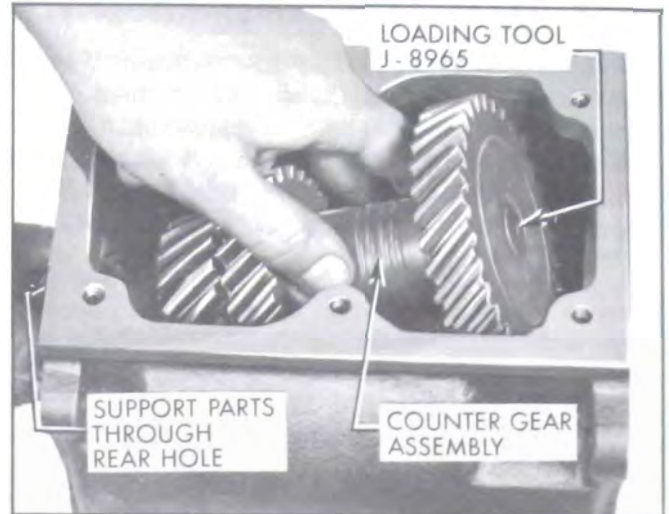

Figure 4-28—Installing Counter Gear
3. With Bearing Loading Tool J-8965 in place, and with all counter gear assembly parts in place except front thrust washer, lower counter gear vertically through top of transmission case with rear (small section of counter gear) down. Then position counter gear in a horizontal position to allow front of counter gear to pass projections in transmission case. See Figure 4-28.